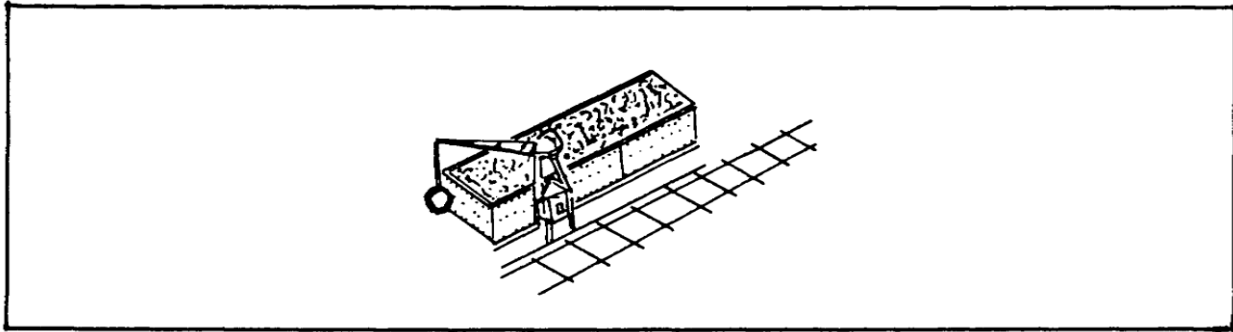

Figure 1-16. Coaling Point-Crane-Loaded.
4. Coaling points are found where steam engines are used. Two types will normally be found: one, where the coal is stockpiled and loaded into the tender by use of a gantry crane; and two, the coal is stored in a coaling tower and loaded into the tender by use of coal chutes. In either case, the surrounding area will be covered with coal dust and the presence of coal cars may be seen (Figures 1-16 and 1-17).